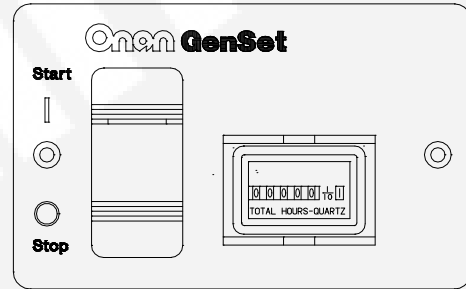

FIGURE 5-6. REMOTE SWITCH / HOUR METER
- Remote switch / status lamp and hour meter (Figure 5-6).